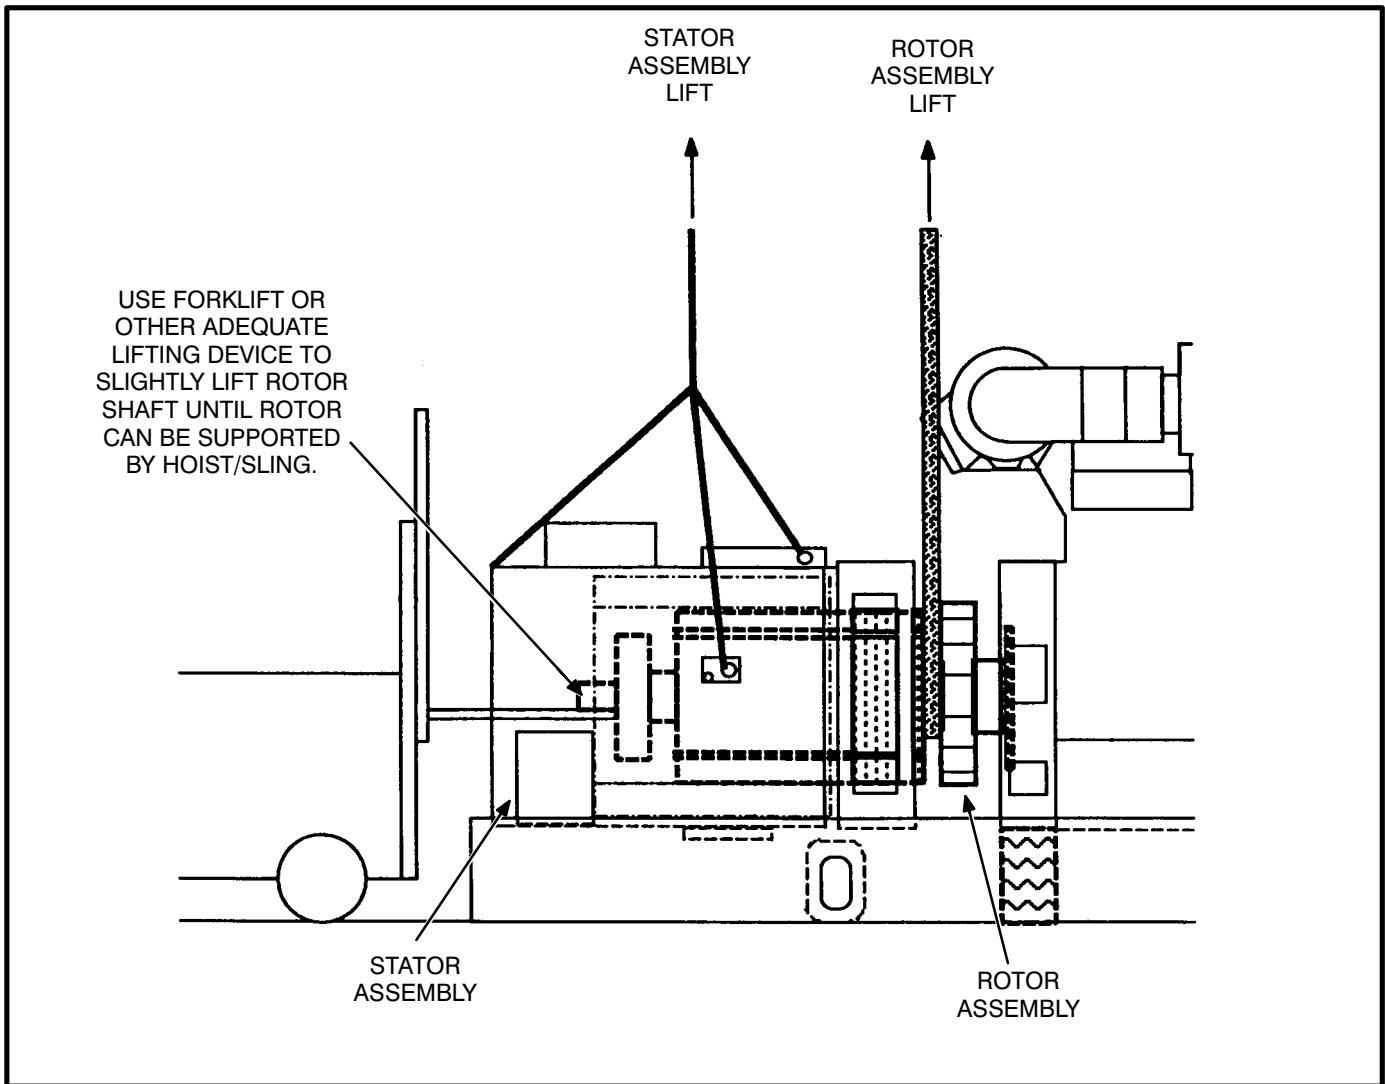

FIGURE 5-10. REMOVING STATOR ASSEMBLY
20. If generator set does not have chassis mounts at generator end (N855 and K19), block the rear of the engine in place by supporting the flywheel housing. A length of steel channel and wooden blocking is required to support the rear of the engine. Place the channel and blocking under the flywheel housing. Lower the generator until most of the set weight is supported by the blocking (see Figure 5-10).